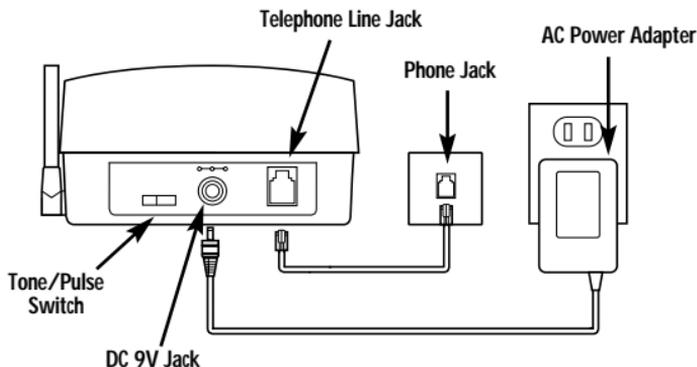

Figure 2-2. Connecting the power adapter to the jack on the base unit.
5. Connect the power adapter to the DC 9V jack on the back of the base unit (see Figure 2-2).